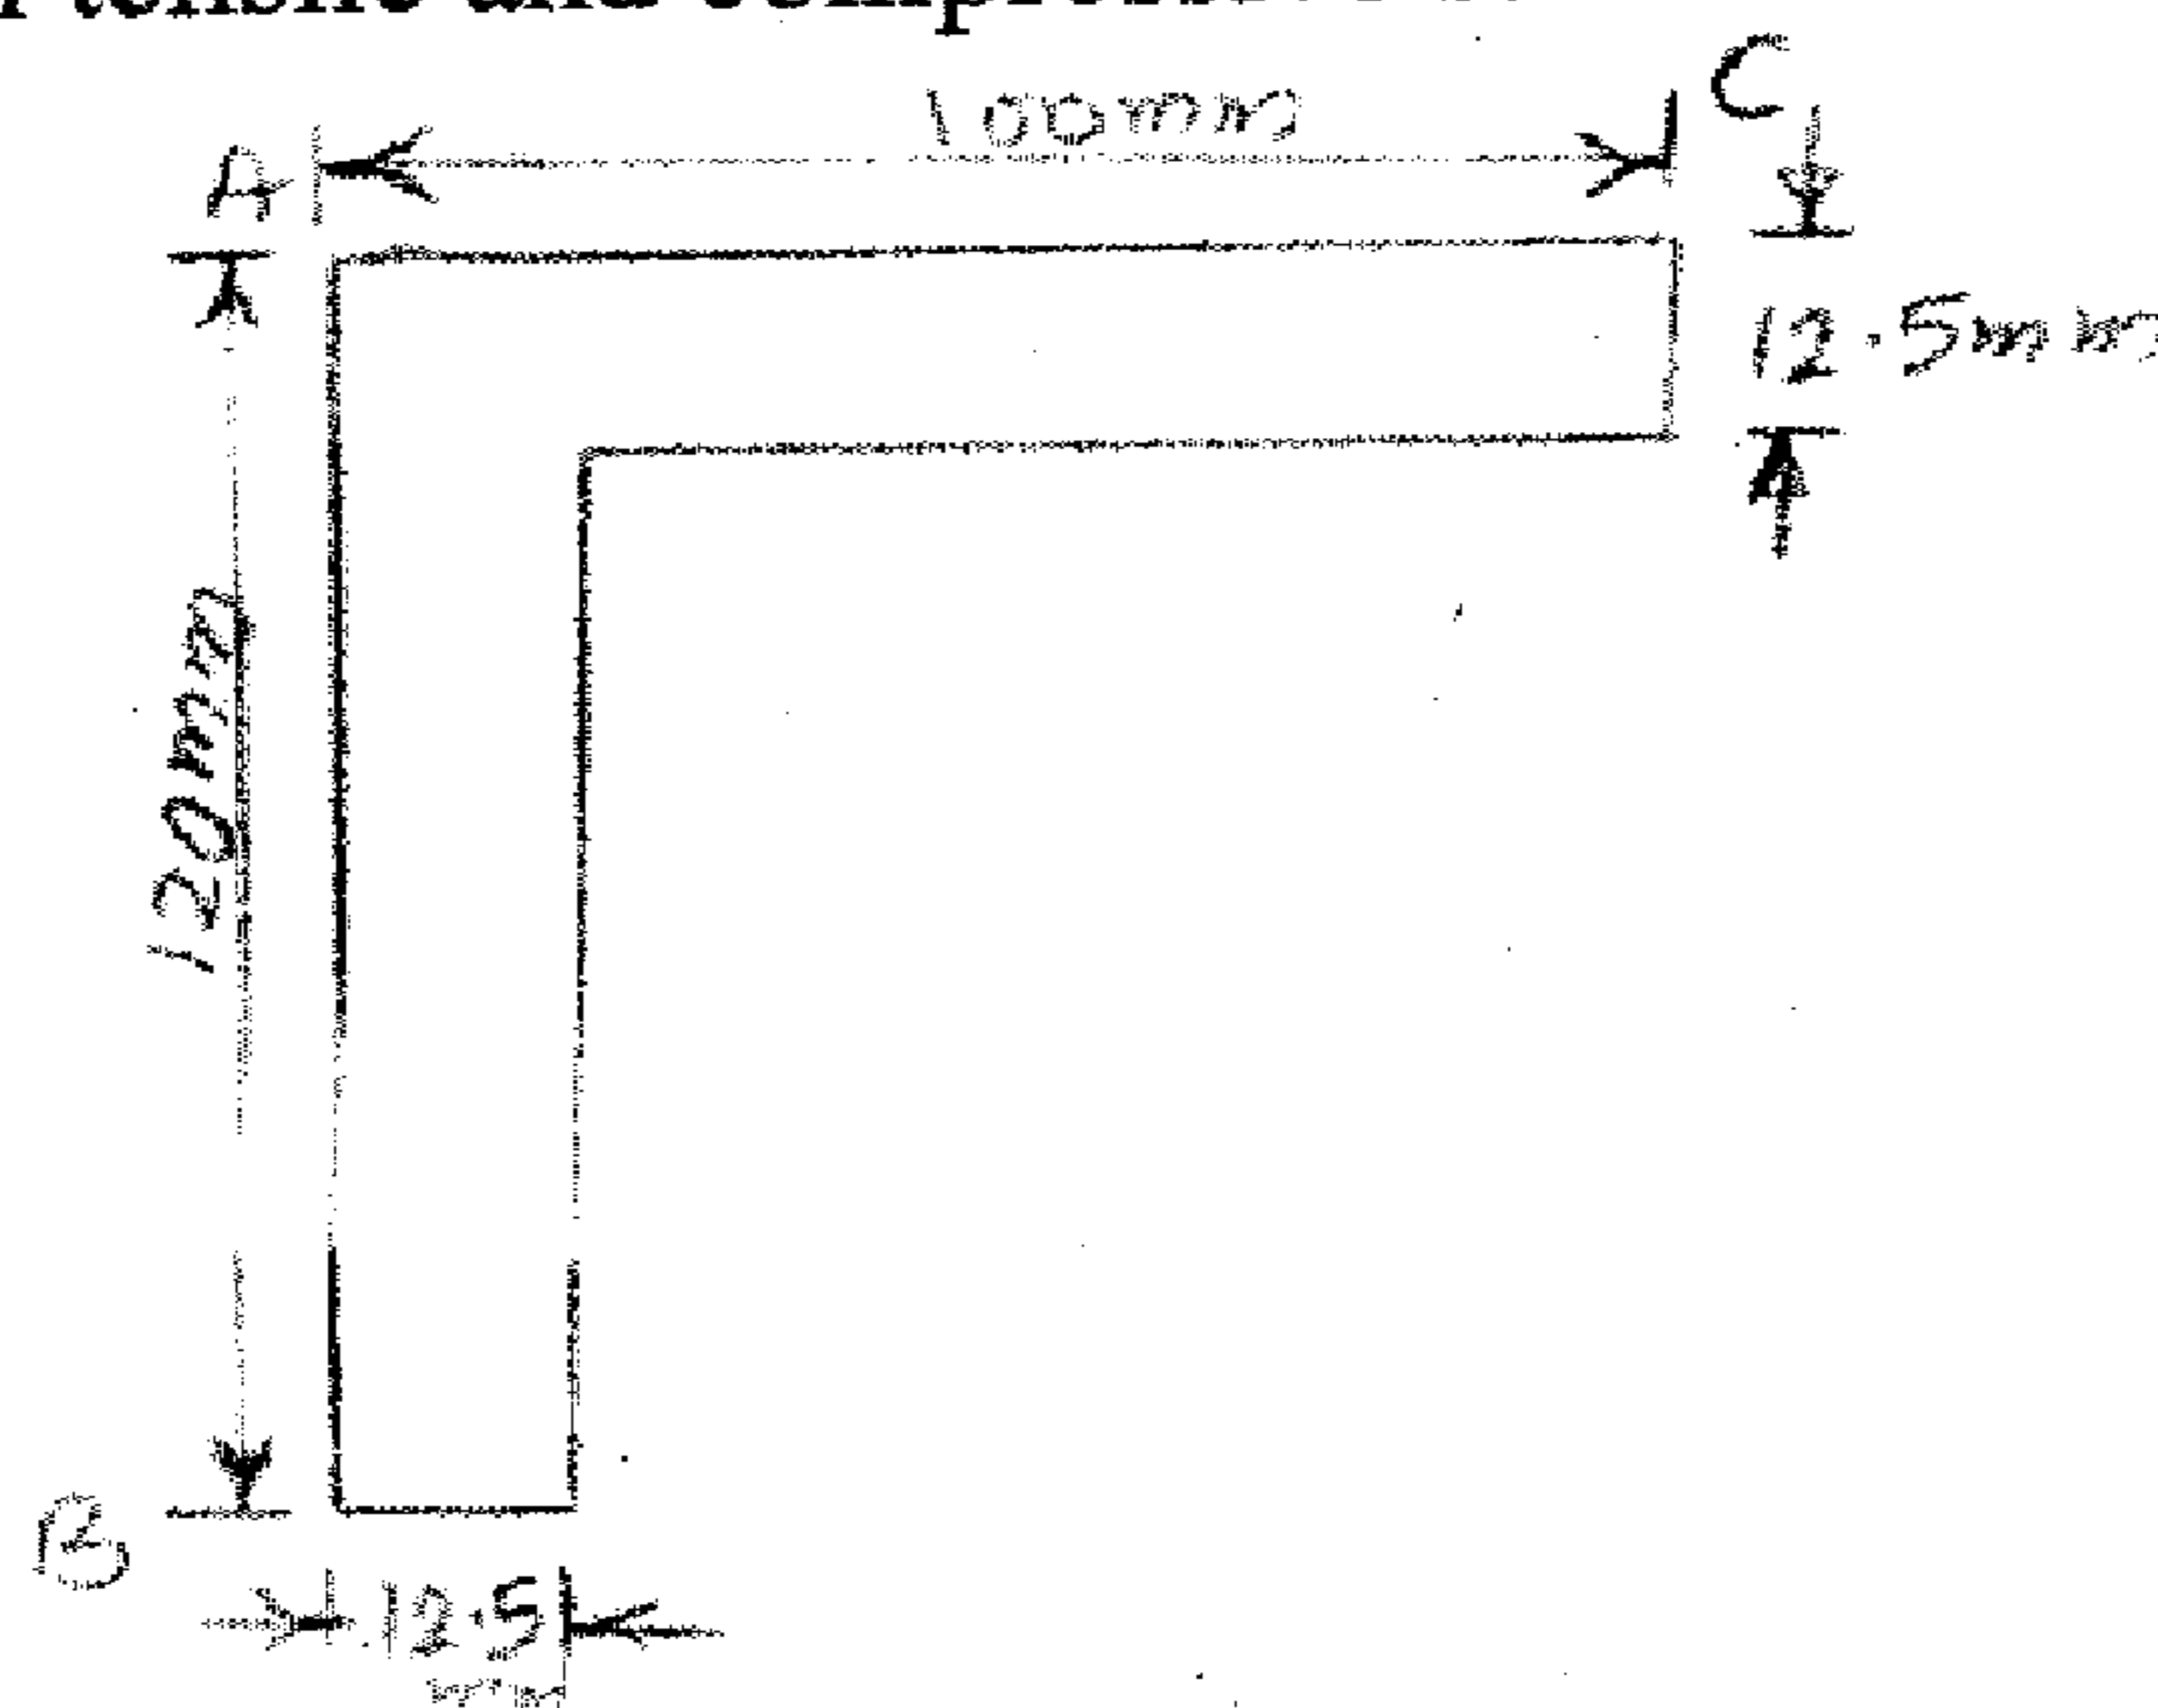

Fig. Q6 (c)
c. An unequal angle section shown in figure Q6 (c) is used as a simply supported beam over a span of 2 m and uniformly distributed load of 10 kN/m, inclusive of its own weight. Determine the maximum tensile and compressive stresses in the section. (10 Marks)